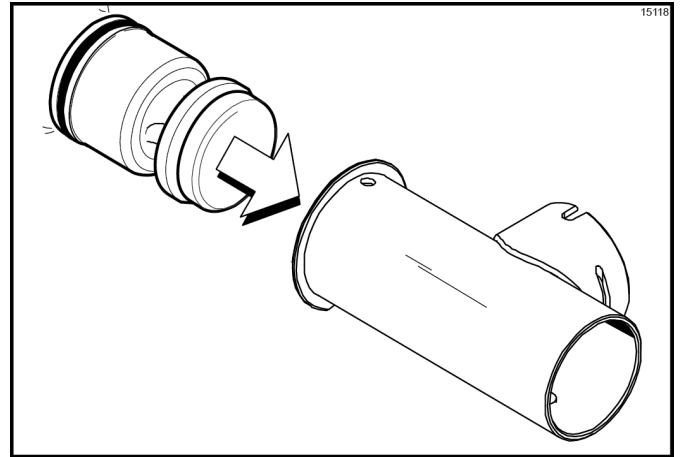

Figure-146
4. Insert the piston into the retaining pin hole end of the pump cylinder. (See Figure-146.)